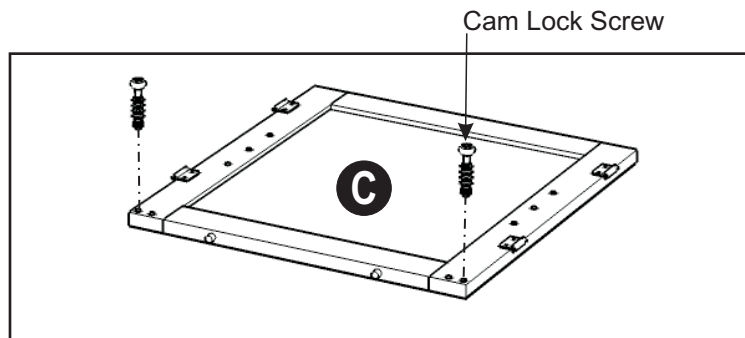

Figure 1
Put Cam Lock Screws into the pre-drilled holes of Side Panels (C) and tighten. (see Figure 1)